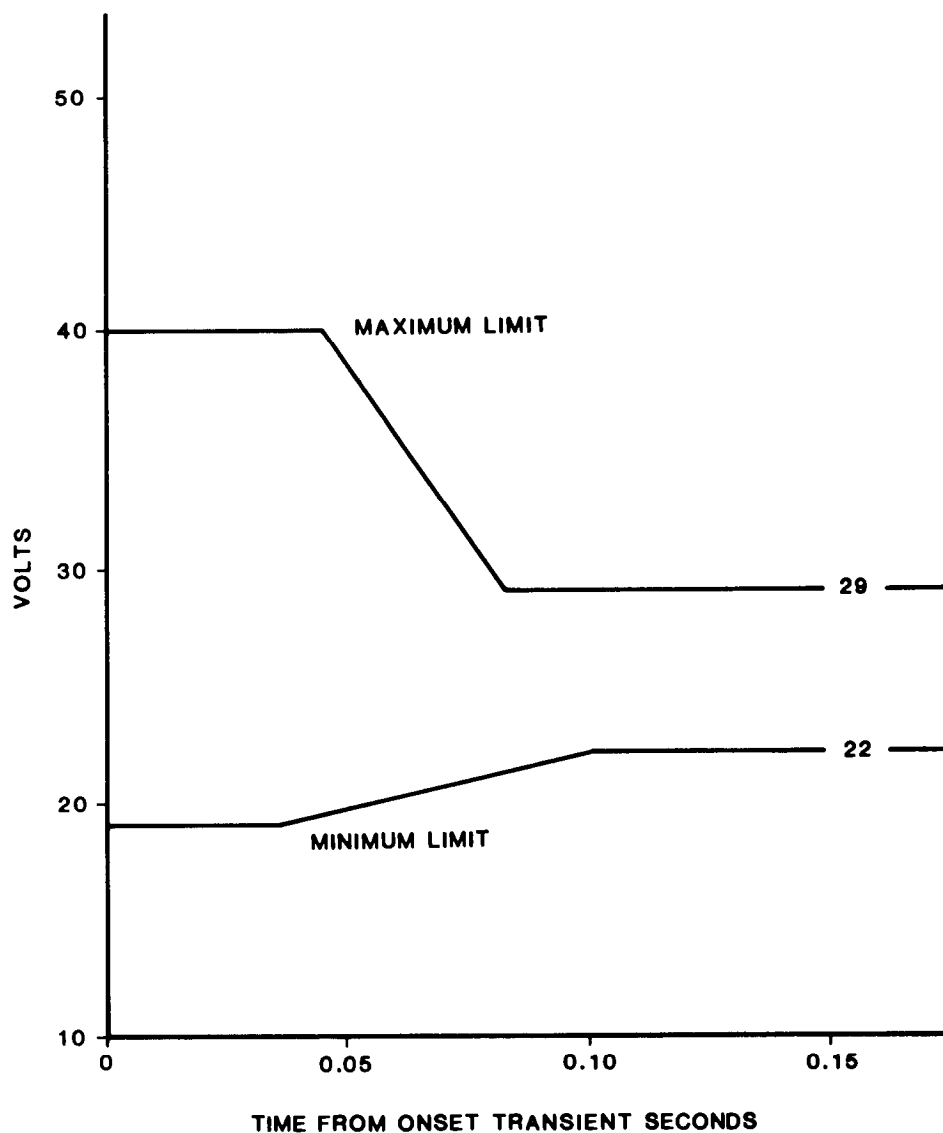

Figure 13-2. Envelope of Voltage Transient for 28 Volts (Nominal) DC System
(11) An overspeed shutdown device f. Using lubricating oil activated at 110 percent (nominal) MIL-L-23699, bring lube oil level to engine speed. full mark on dipstick. Record lube oil temperature.
(12) A high exhaust temperature shutdown device activated at 1225 + 25°F (662.8 ± -3.9°C).
h. Figures 13-2 through 13-5 show acceptable limits of transient response, exhaust gas temperature, oil sump temperature, and fuel flow limits.
(1) Starter.
(2) Low oil pressure switch.
(3) Fuel manifold with fuel injection nozzles.
(4) High tension lead.
(5) Ignition coil.